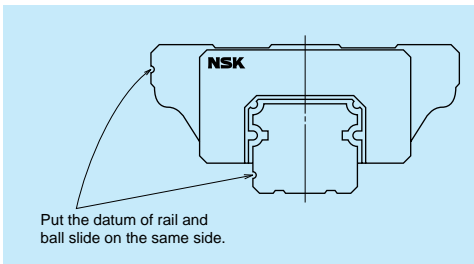

Fig. II-9-24
- ① Wipe off the rust preventive oil from the rail and ball slide.
- ② Match the datum face of rail and the ball slide (groove for installation) as shown in (Fig. II-9-24).